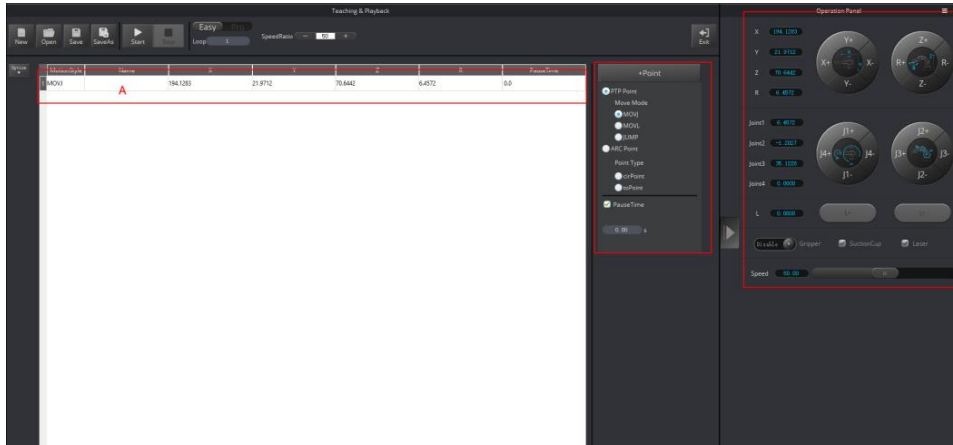

Figure 5.20 Save the start position A
5. Click **+Point** to save the coordinate corresponding to the position A, as shown in Figure 5.20.